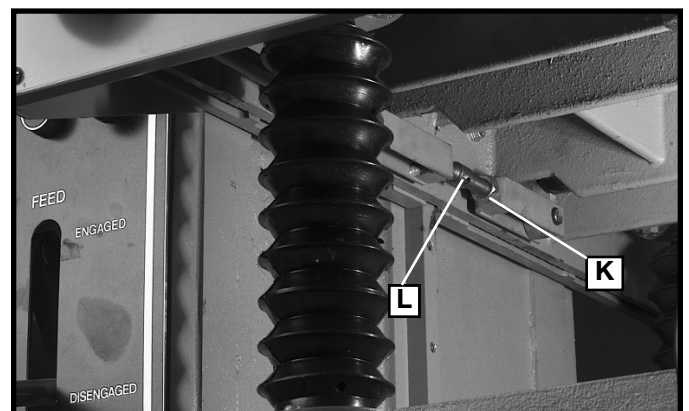

Fig. 23D
2. If an adjustment to the outfeed roller is necessary, loosen jam nut (K) Fig. 23D, located on the left side of machine under the table, and turn collar (L) right or left as needed until the outfeed roller is adjusted properly.
3. Tighten jam nut (K) Fig. 23D.